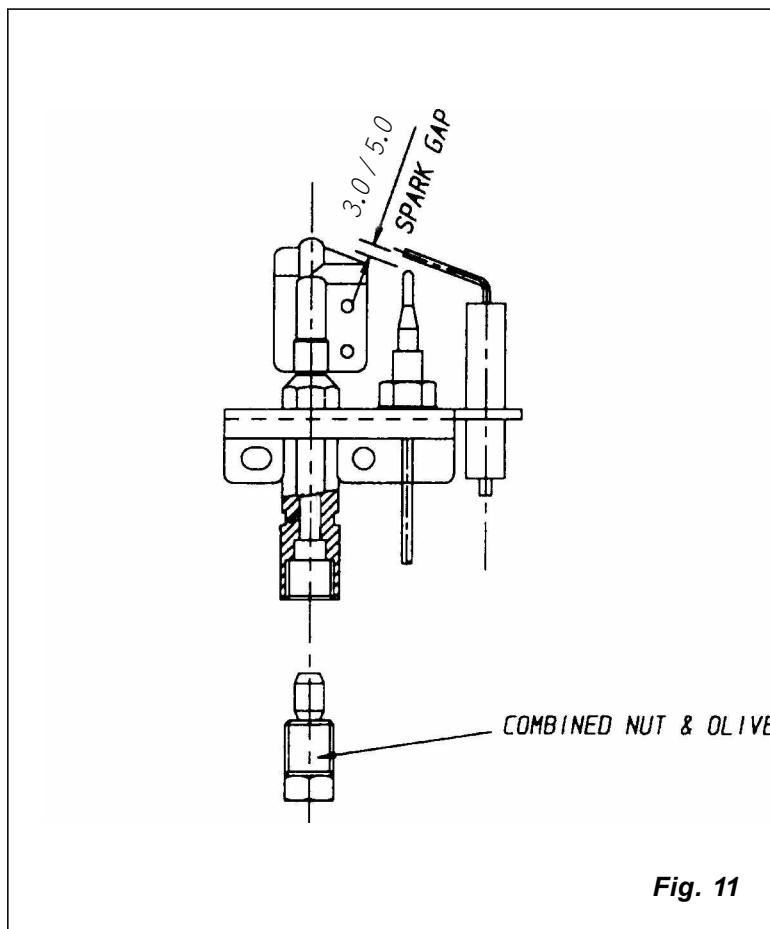

Fig. 11
**N.B. The spark electrode should be positioned as shown in Fig. 11.**